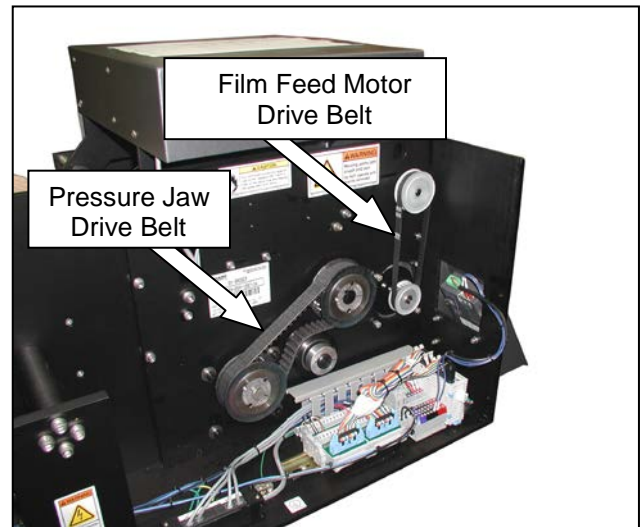

Figure 2-7. Pressure Bar and Film Feed Belts
2. Locate the pressure jaw drive belt (Figure 2-7). Depress the center of the belt to determine if the tension is appropriate. The belt should deflect approximately 1/8" when depressed with one finger at the center of the longest belt span.*
4. Locate the film feed motor drive belt (Figure 2-7). Repeat the process in step two to check for correct tension. This belt should deflect approximately 3/32" at proper tension. If too tight or too loose, repeat step three on the film feed drive motor.